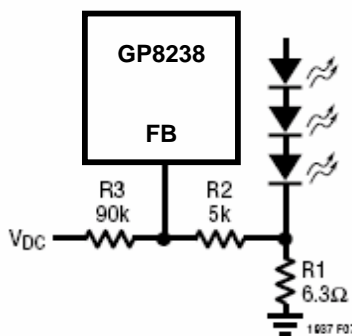
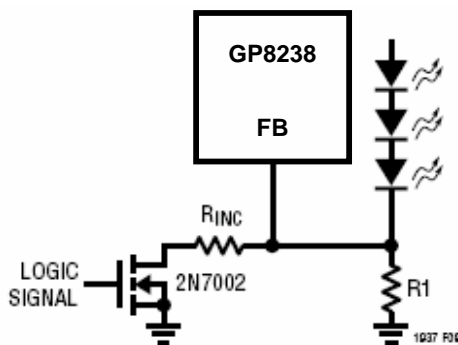

Figure 3 Dimming control using a DC voltage
Figure 5. Dimming control using a logic signal
For some applications, the preferred method of brightness control is a variable DC voltage to adjust the LED current. The dimming control using a DC voltage is shown in figure 5. As the DC voltage increases, the voltage drop on R₂ increases and the voltage drop on R₁ decreases. Thus, the LED current decreases. The selection of R₂ and R₃ will make the current from the variable DC source much smaller than the LED current and much larger than the FB pin bias current. For V_{DC} range from 0V to 2V, the selection of resistors in figure 3 gives dimming control of LED current from 0mA to 15mA.
For applications that need to adjust the LED current in discrete steps, a logic signal can be used as shown in figure 5. R1 sets the minimum LED current (when the NMOS is off). R_{INC} sets how much the LED current increases when the NMOS is turned on. The selection of R1 and R_{INC} follows formula (1) and Table 1.
To achieve minimum start-up delay, no internal soft-start circuit is included in GP8238. When first turned on without an external soft-start circuit, inrush current is about 200mA. If soft-start is desired, the recommended circuit and the waveforms are shown in figure 6. If both soft-start and dimming are used, a 10kHz PWM signal on SHDN is not recommended. Use a lower frequency or implement dimming through the FB pin as shown in figure 3, 4 or 5.